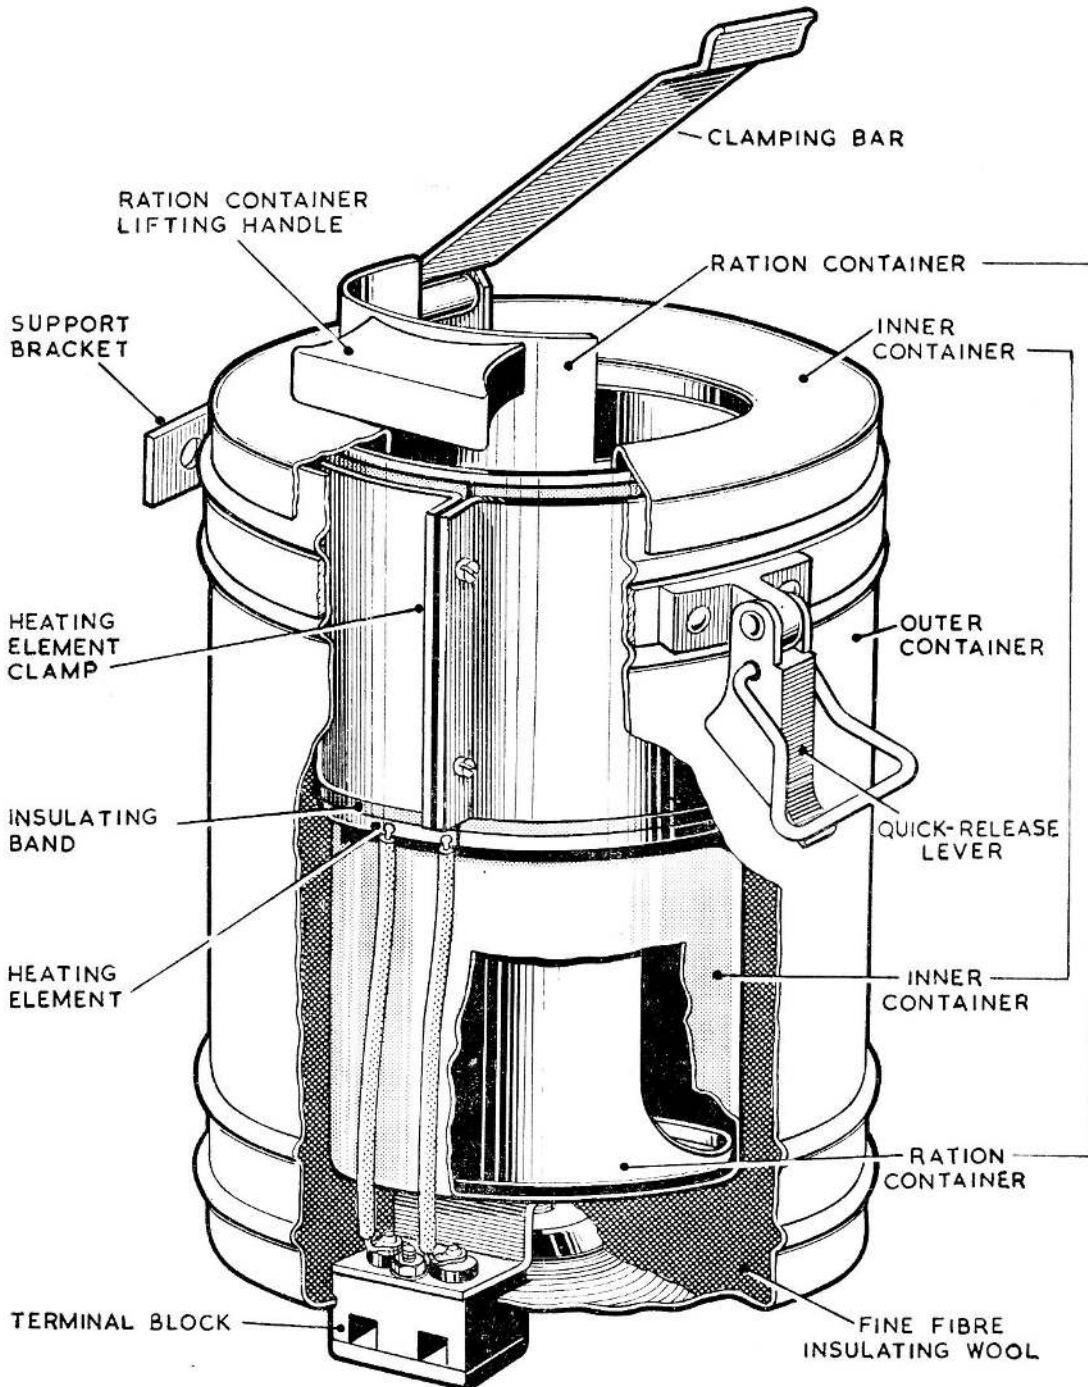

Fig. 1. Part cut away view of the flight ration heater
Part cut away view of the flight ration heater ...	Fig. 1
2. The construction of the heater is illustrated in fig. 1. The ration container detachable to facilitate loading and unloading of the tins of rations; the inner container is detachable for cleaning purposes. The clamping bar, held by a quick release lever, prevents the tins falling out of the heater, and the supporting bracket surrounding the outer container is for securing the unit to a convenient position inside the aircraft.